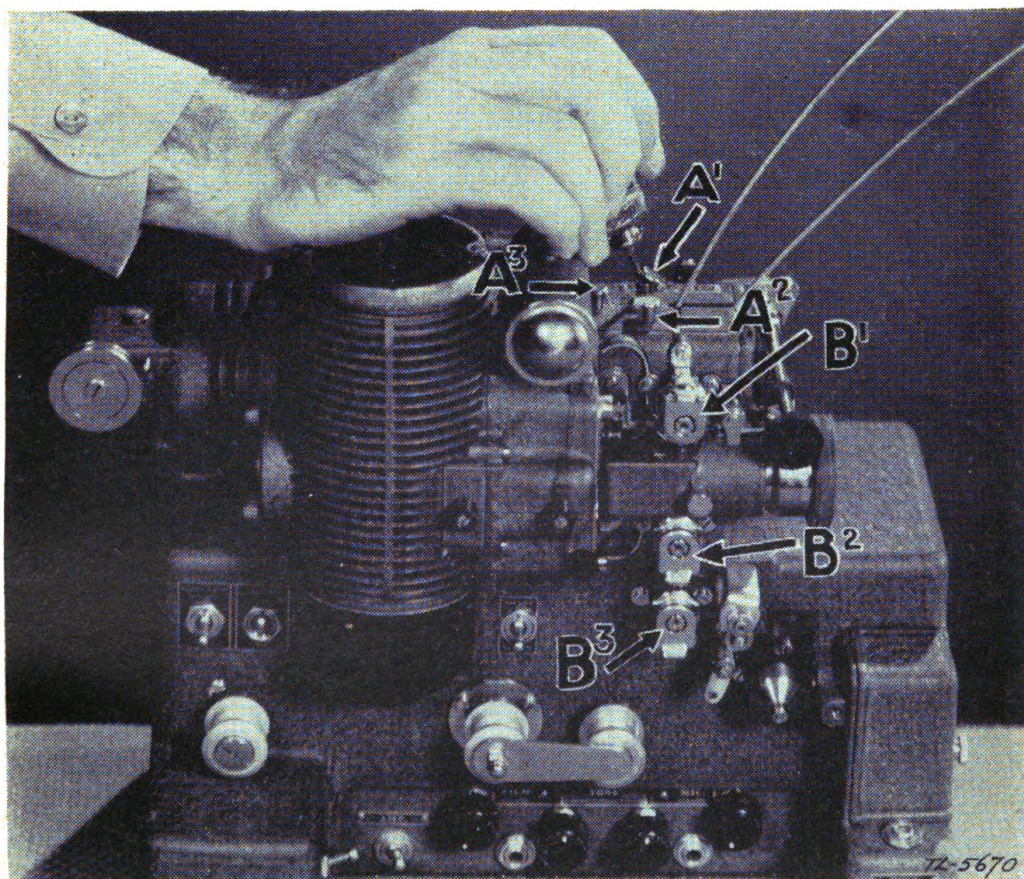

FIGURE 58.—Oiling system of Bell & Howell projector.
c. Bell & Howell.—Place one drop of oil in cups A^1 and A^2 (fig. 58) after every 4-hour period of operation. Oil A^3 with one drop every 16 hours. Saturate sprocket felts B^1 , B^2 , and B^3 every 3 months.